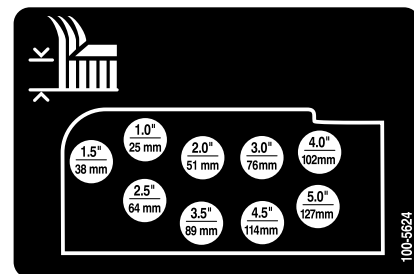

Figure 25
10. Mount the height-of-cut chains to the desired height-of-cut hole with the clevis pin and hairpin cotter (Figure 25).